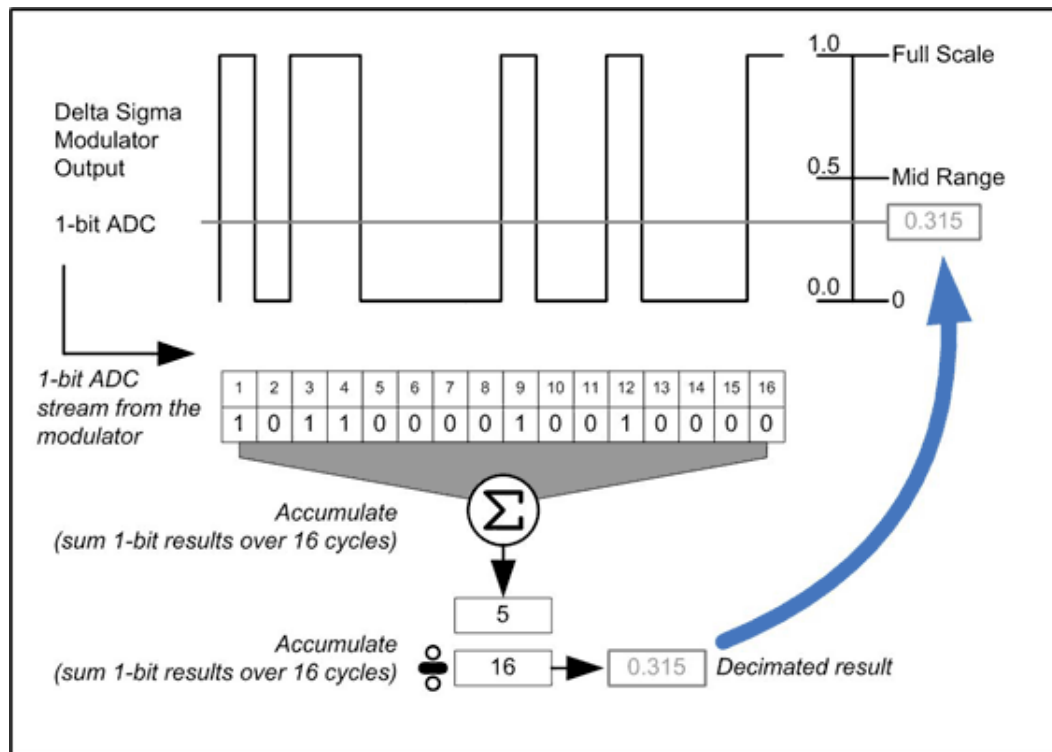

Figure 2.5: Average Calculation of PCM Signal [6].
and to understand how the average of bit stream is calculated, assume a single bit Sigma-Delta ADC. The 1-bit A/D stream is digitally filtered to obtain an n-bit representation of the analog input. In simplified terms the 1-bit A/D stream is accumulated over (N) sampling cycles and divided by (N). This yields a decimated value which is the average value of bit stream from the modulator as shown in figure 2.5.